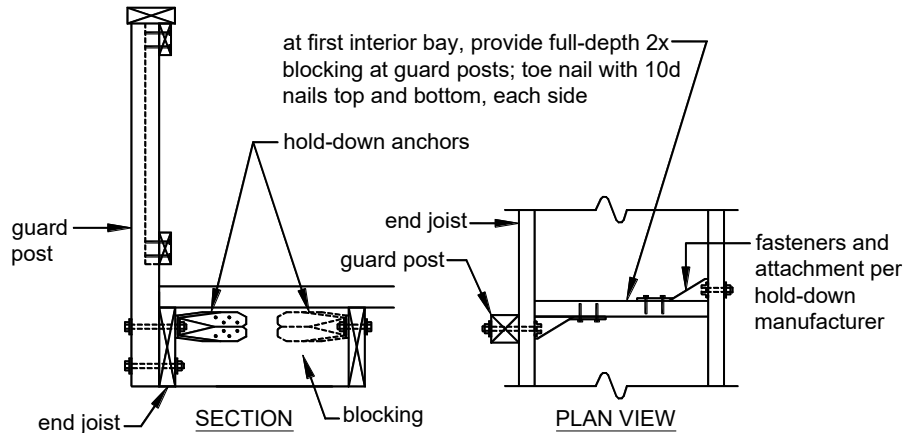

FIGURE 31: GUARD POST-TO-END JOIST
- Hold-down anchors, as shown in FIGURES 31 and 32, shall be used to attach the guard post to the end joist and rim joist, respectively.